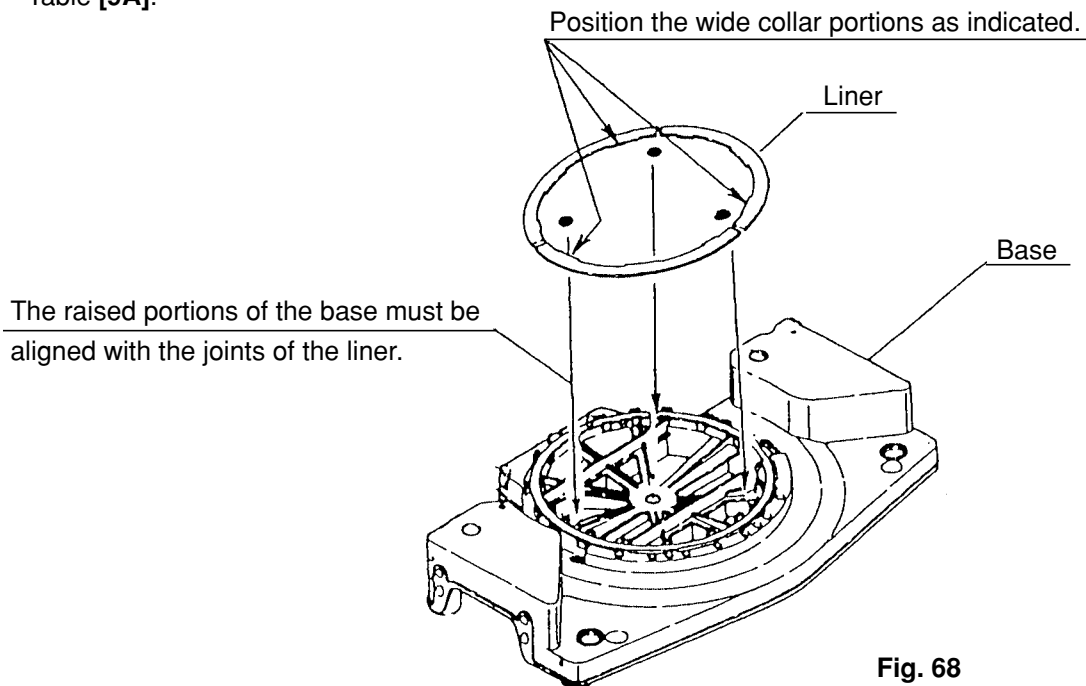

Fig. 68
- (1) Prior to reassembly, measure the insulation resistance of the armature, stator, switch and other electrical components and confirm that the insulation resistance of each part is more than 7 M Ω .
- (2) When replacing the Spring [155], apply approximately 5 grams of Hitachi Motor Grease to the inner circumference of the new spring prior to assembly.
- (3) When replacing or reassembling the Liner [46A], ensure it is positioned and assembled as illustrated in Fig. 68. In addition, coat approximately 8 grams of Hitachi Motor Grease on the liner sliding portion of the Turn Table [9A].